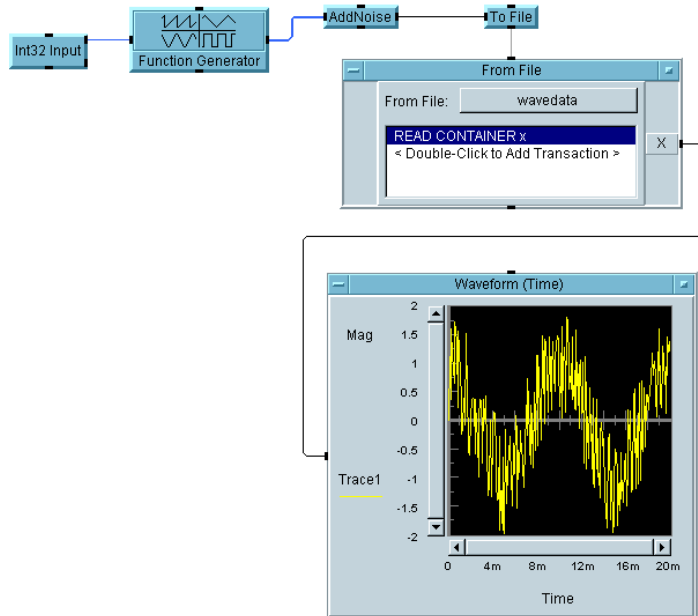

Figure 2-12. Adding a From File Object
the objects as shown in Figure 2-12. The sequence line between To File and From File ensures the data is written to the file before it is read.
7. Run the program. It should similar to Figure 2-12. Save the program as `usrobj-program.vee`.